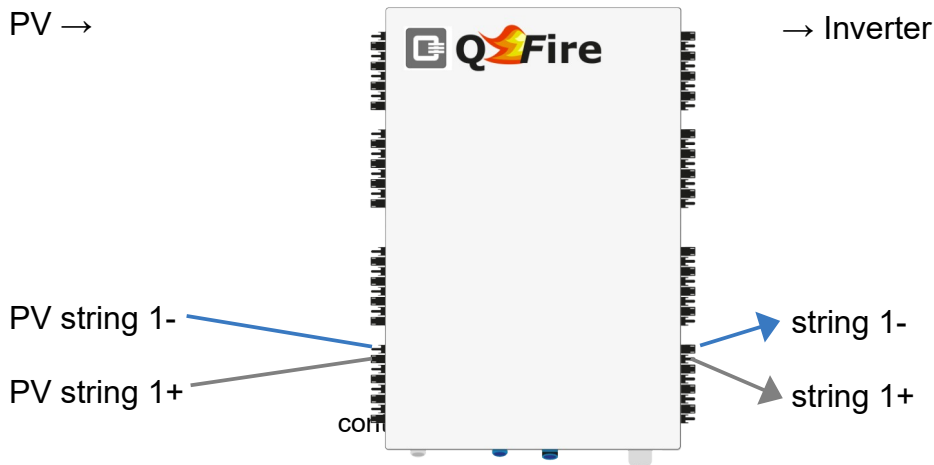

Figure 16: Connections switch box
2. Connect PV strings to the MC4 plugs of the switch box(es), see figure 16:
→ All strings up from the switch box right side (see figure 16, page 21) must be voltage-free.